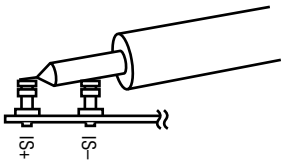

Figure 2. Measuring Voltage Across R25
2. With power off, connect a LED between V_{OUT} and GND or between V_{OUT} and LED-, if fast rise time is to be verified. When returning LED to LED-, R25 needs to be populated. To check voltage across R25, the best set up is to solder a short 50 Ω coax cable across R25. Connect the other end of the cable directly into a BNC connector on an oscilloscope. A less perfect but easier set up is to touch the probe tip directly across the IS+ and IS- terminals with out the probe ground wire. See Figure 2 for setup. The latter set up tends to have more noise but is ok for non-critical measurements. The LED connecting wires should be as short as possible, 1 inch total being ideal.